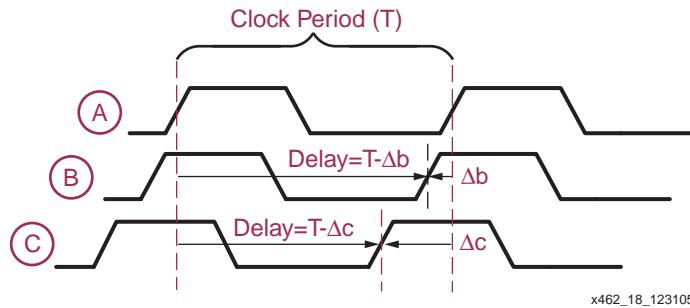

Figure 3-18: **Delaying a Fixed Frequency Clock Appears to Predict the Future**
Because it is impossible to insert a negative delay to counteract the clock skew, the DCM actually *delays* the output clocks enough so that they appear to be advanced in time. How is this accomplished? The clock cycle is repetitive and has a fixed period, T. As shown in Figure 3-18, the clock at Point (B) appears to be advanced in time by the delay Δb . In reality however, the clock is delayed by $(T - \Delta b)$. Similarly, the clock at Point (C) is delayed by $(T - \Delta c)$.